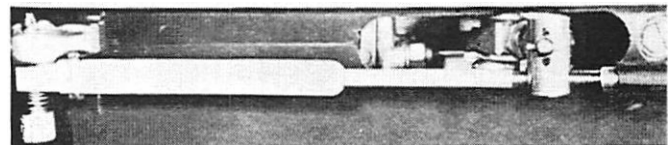

Figure 7. Throttle Cable Connected and Anchored
12. When attaching cables to motor, note correct throttle lever handle. Push up and turn knurled pin 1/4 turn after it is thru slot in order to anchor cable. (Figure 7)